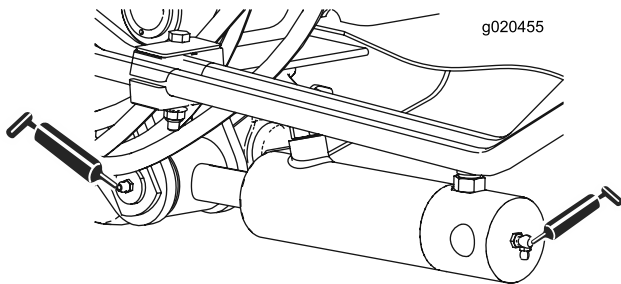

Figure 44
- Lift arm cylinder bushings (2 each) (Figure 44)